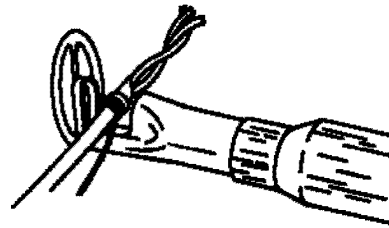

Figure 14. MG-1 Reflector
- a. MG-1. Used for heating solder termination sleeves and shrinking small-diameter tubing. Used for concentrated, high-temperature heating and tubing reflector and comes with heating tool when ordered (Figure 14).